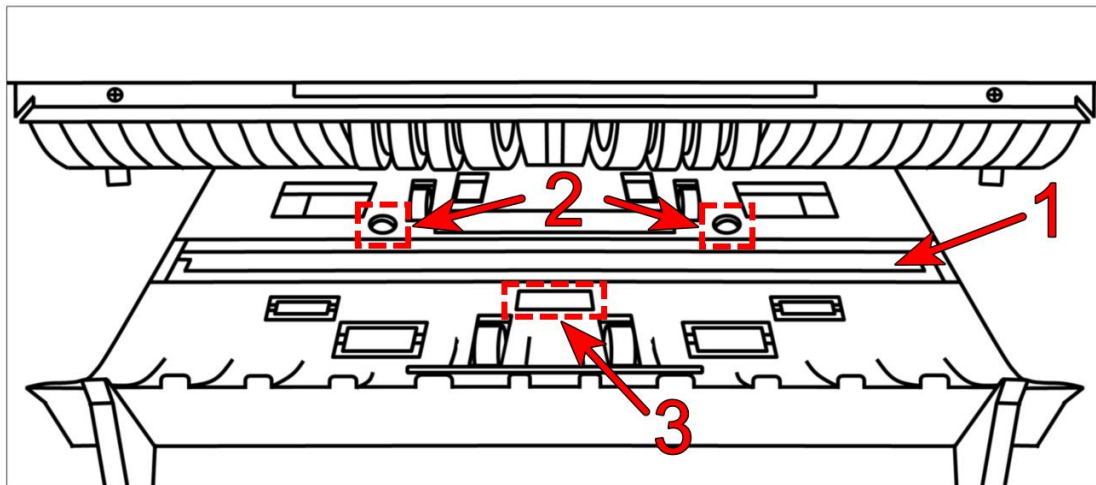

Figure 100
3) Clean the lower UV sensor and lower CIS with nylon brush as shown in the following Figure 100.